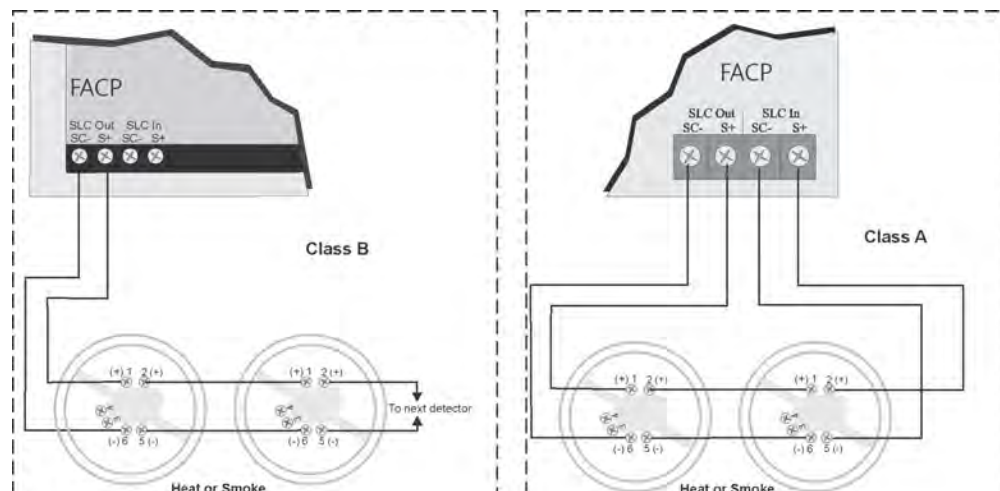

Figure 7.5 Heat or Smoke Detector Connection to the FACP (Class B)
1. Wire the device bases as shown in Figure 7.5.